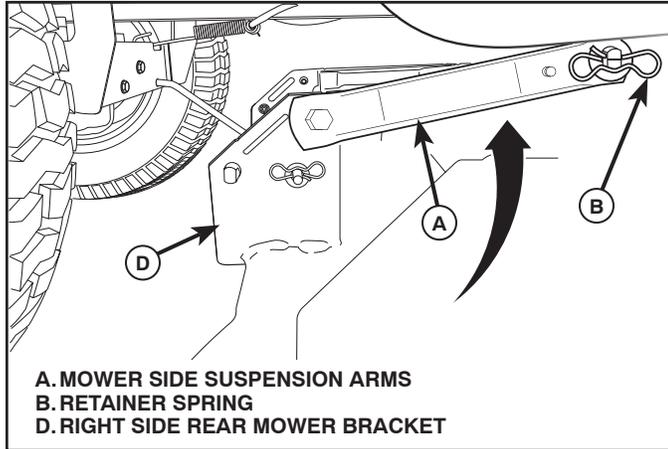

Fig. 27
6. ATTACH MOWER SIDE SUSPENSION ARMS (A) TO CHASSIS (See Fig. 27)
- Position front hole in side suspension arm (A) over pin on outside of tractor chassis and secure with large washer and large retainer spring (B).